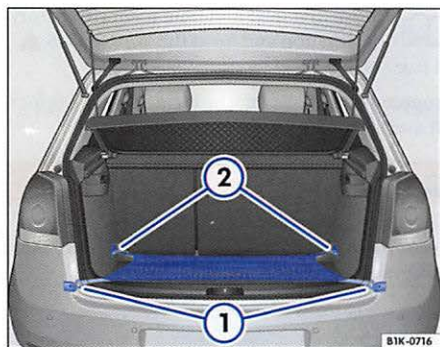

Fig. 92 In the luggage compartment: Luggage net hung horizontally.
- Secure the luggage net hooks to the tie-down hooks ⇒ fig. 92 ② ⇒ ▲. The luggage net zipper must face upwards.
- Secure the luggage net hooks to the tie-down hooks ①.